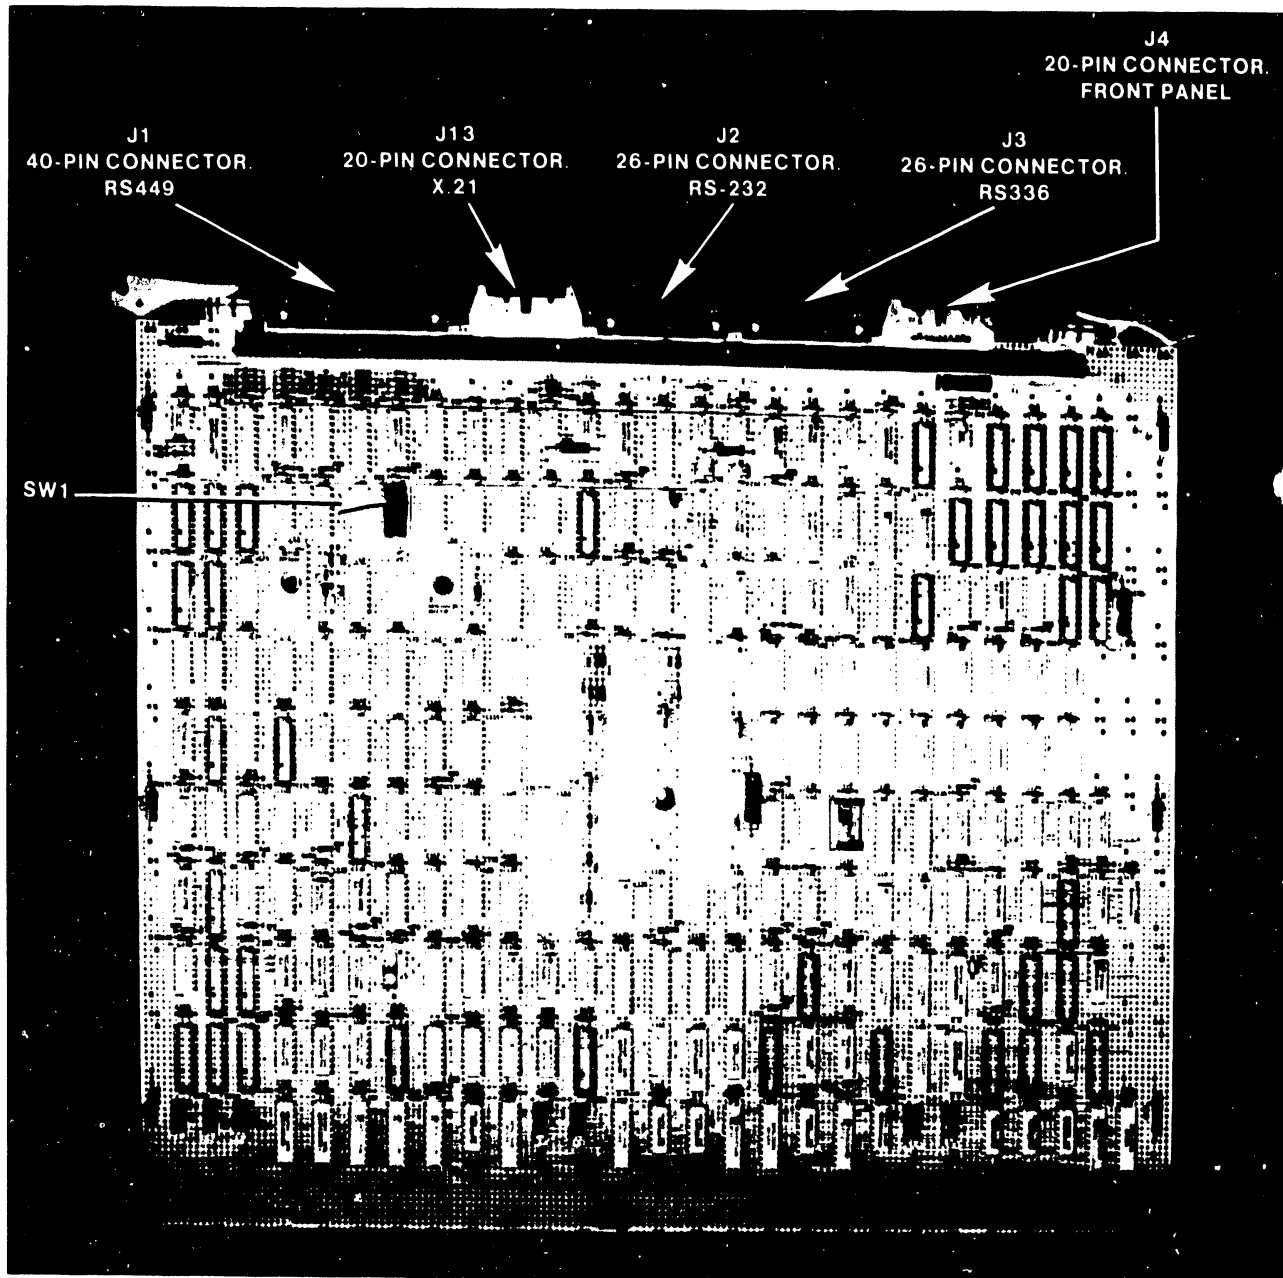
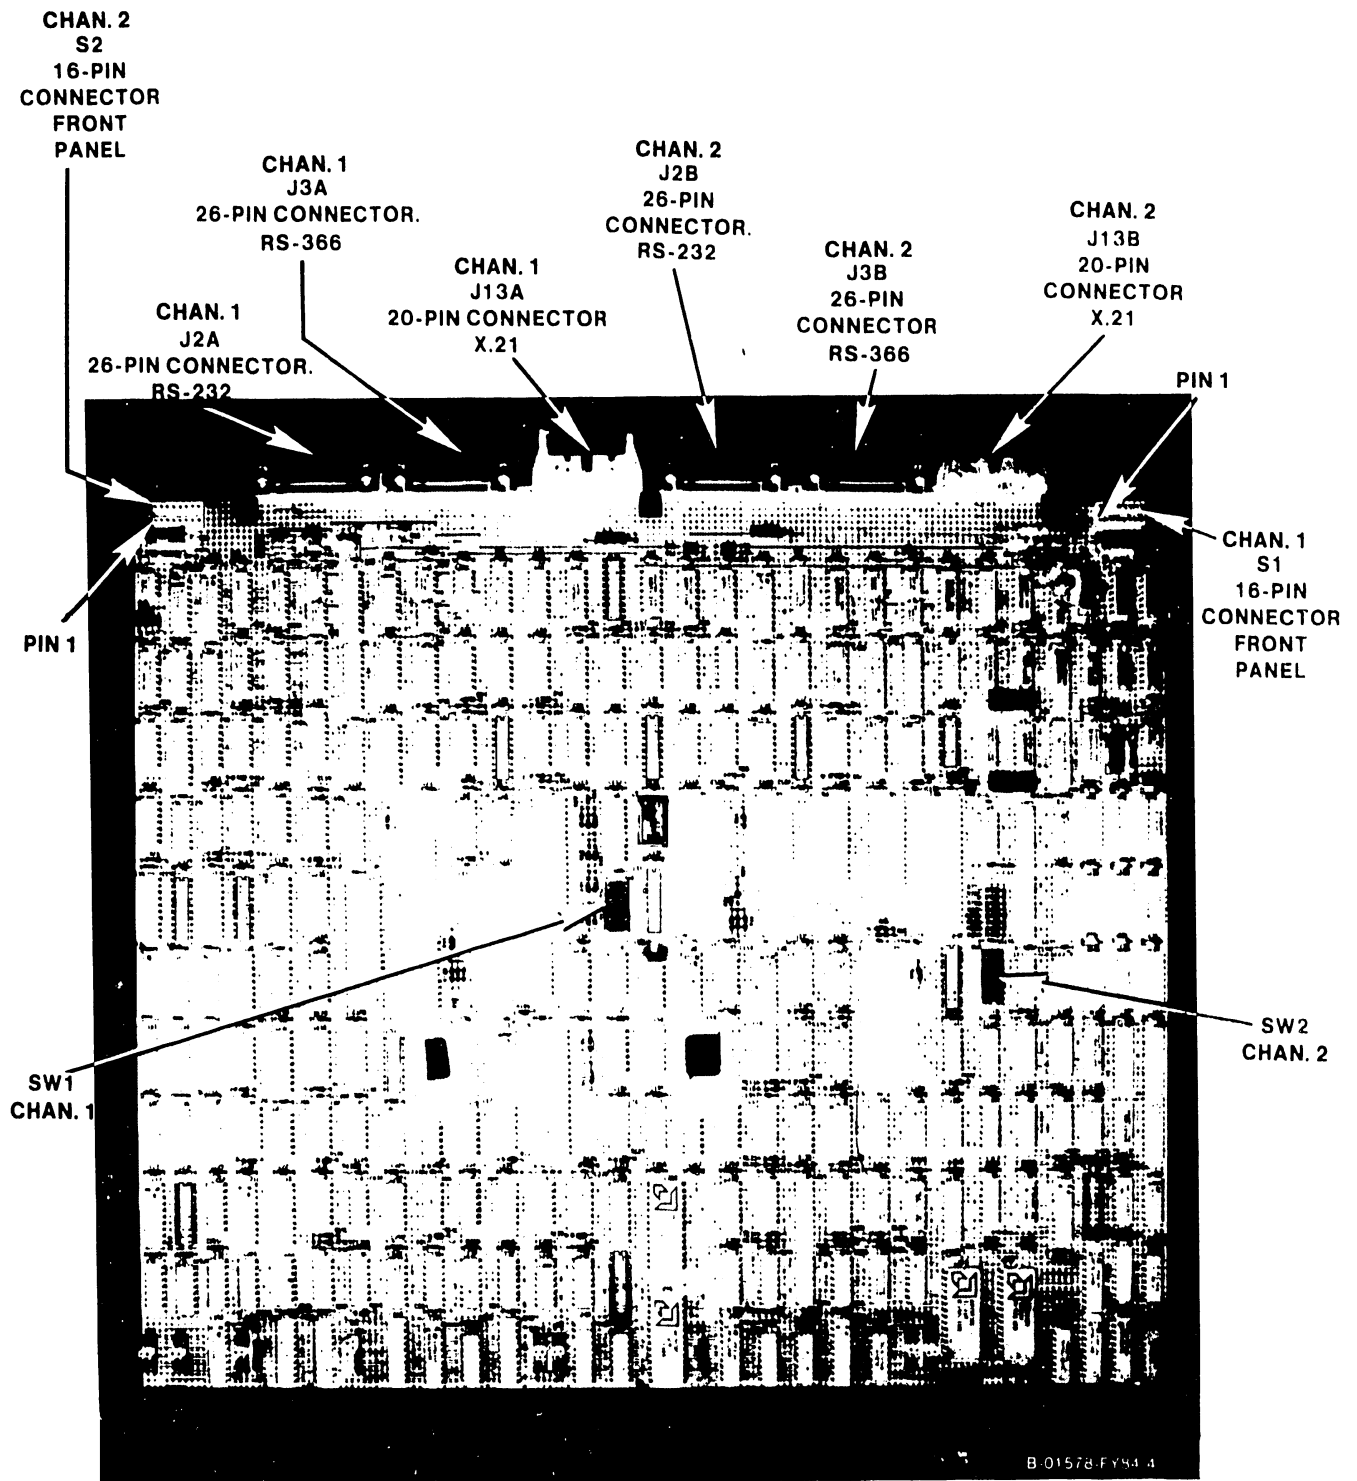

Figure 5-15. 210-8337 1-Port Telecommunications Adapter B-01368-FY84-B
Figure 5-16. 210-8637 2-Port Telecommunications Adapter
1. Remove all connectors from the top of the 1-port 210-8337-A Telecommunications Adapter (figure 5-15) or 2-port 210-8637-A Telecommunications Adapter (figure 5-16) in Motherboard slot #9 (I/ODA6). Note the position of all connectors for later reassembly. (Note the position of all cables on the boards that are already installed in the system. Some of these cables may have to be removed to allow removal and replacement of the Telecommunications Adapter.)
3. Check the settings of the 8-position Address/Status switch(s) SW1 (1-port) and SW2 (2-port). (See figures 5-15, 5-16, and 5-17, and table 5-7.)